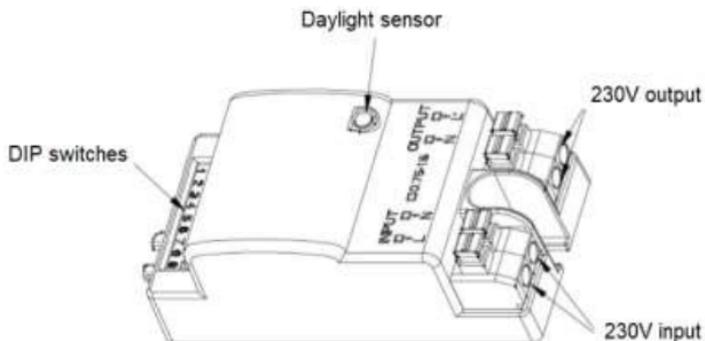

**Fig. 4**
- The additional terminal called Slave Live (L) is available to enable the sensor to power on additional luminaires. A max. LED load of 400W can be controlled by the sensor
- Choose the required colour temperature by means of the DIP switch (see Fig. 4)